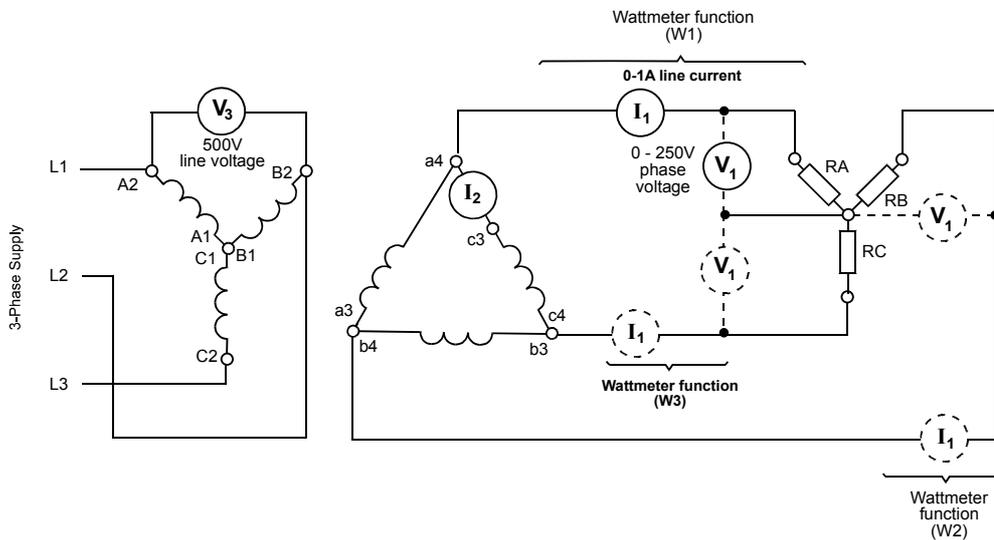
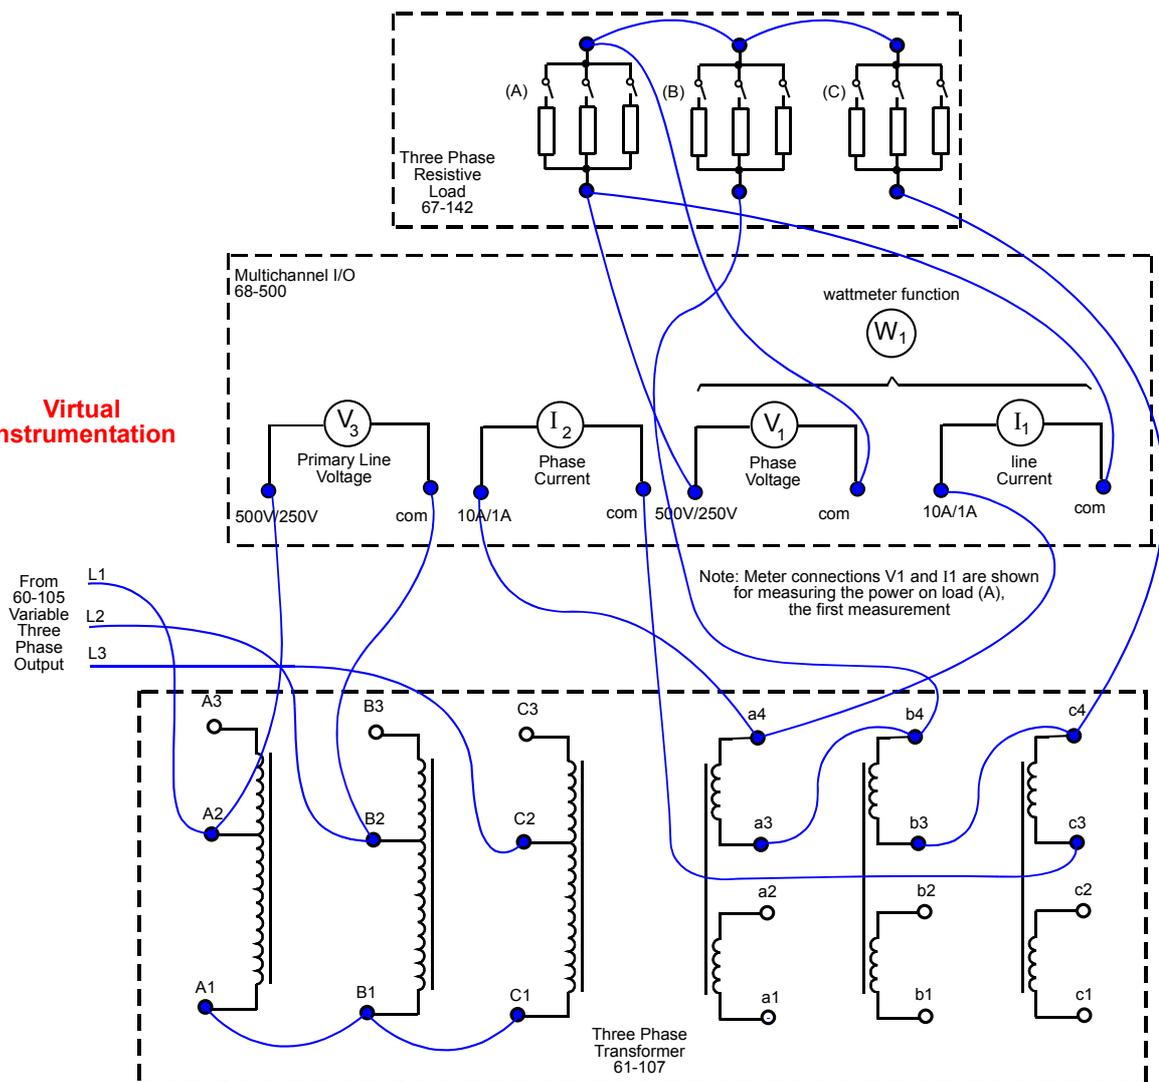

Figure 4-15-3
Figure 4-15-4: Practical 15.1 Circuit Diagram
Make up the connections shown in Figure 4-15-4. A simplified circuit diagram is shown in Figure 4-15-3. At this stage, the wattmeter V1 and I1 connections should be connected in the load (A) circuit as shown to measure the power (W1).
Connect V1 and I1 into the load (B) circuit as shown in Figure 4-15-3 for the second measurement, W2. Set all the load switches to the on position.
Connect V1 and I1 into the load (C) circuit as shown in Figure 4-15-3 for the third measurement, W3. Set all the load switches to the on position